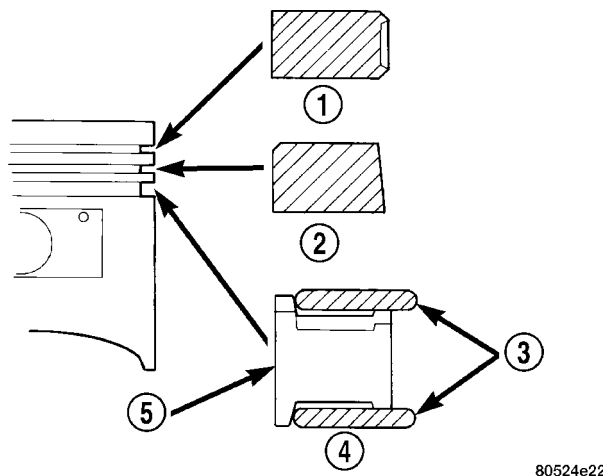

Fig. 82 Piston Ring Installation
Install rings with manufacturers identification mark facing up, to the top of the piston (Fig. 82).
(1) Install oil ring expander (Fig. 82).
(3) Install No. 2 piston ring and then No. 1 piston ring (Fig. 82).